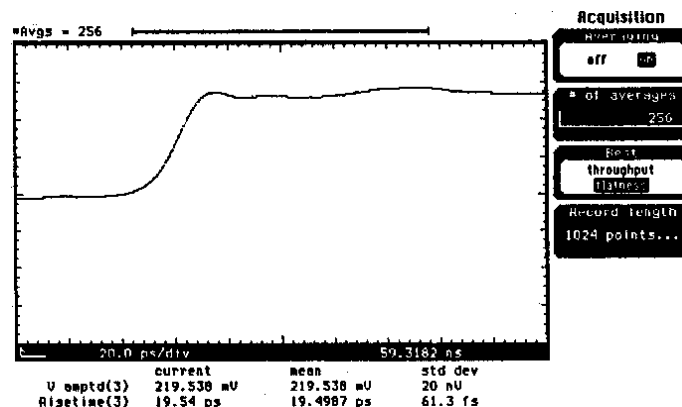

Figure 13: Reflection from short circuit at TDR test port. Used as system calibration waveform. 80 mV/div and 20 ps/div.
11. Leave the short circuit termination attached to the TDR reference port. You have now identified which edge in Figure 12 was due to this short circuit. Now adjust the time base position control to move the incident test pulse edge (i.e., the first negative edge) off of the screen to the left. Position the positive edge from the short circuit close to the left edge of the screen. Change the sweep to 20 ps/div. Reposition the positive edge reflection from the short circuit to the third division from the left. See Figure 13.